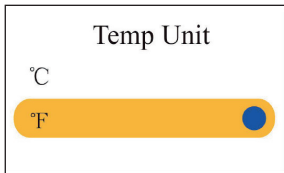

Figure 4.10G TEMP unit setup
- **TEMP unit:** To set the temperature unit, “°C (Celsius)” and “°F (Fahrenheit)” for option, the factory default is “°F”, as shown in figure 4.10G.